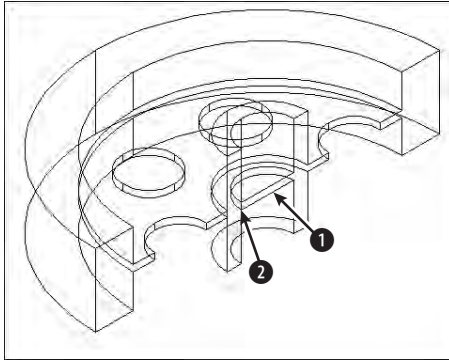

Figure 24-23: The solid after slicing and deleting one-half of it
4. As mentioned earlier, the slicing reveals an error — the disk cuts through the central tube, as shown in Figure 24-23. To fix the error now, choose **Zoom Realtime** from the Standard toolbar and zoom in so the model takes up the entire screen.
5. Start the **CIRCLE** command. At the Specify center point for circle or [3P/2P/Ttr (tan tan radius)]: prompt, pick the midpoint at ① in Figure 24-23. At the Specify radius of circle or [Diameter]: prompt, pick the endpoint at ②.
6. Choose **Extrude** from the Solids toolbar. Select the new circle. Set the height of extrusion to 16 and accept the default taper angle of zero (0).